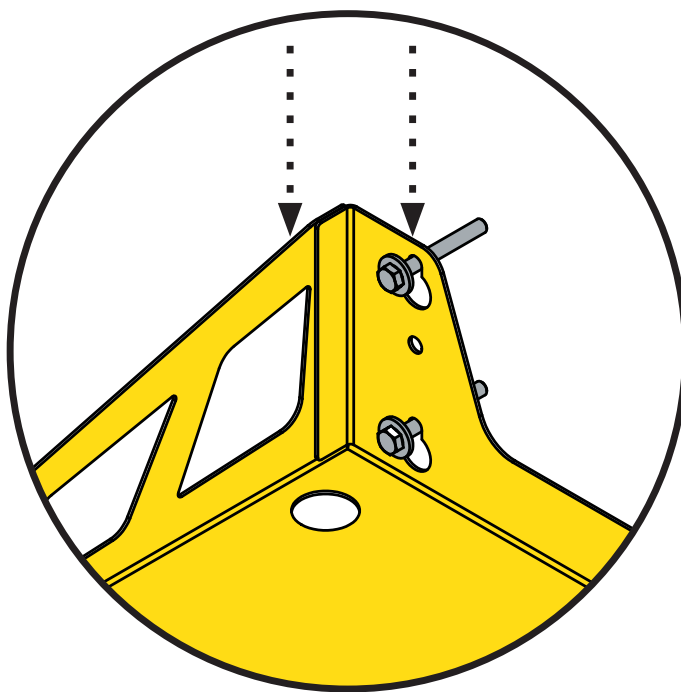

FIG. 7
Slide the Wall Bracket (F) down so that the fastener is snugly inside the smaller section of each keyhole [FIG 7].